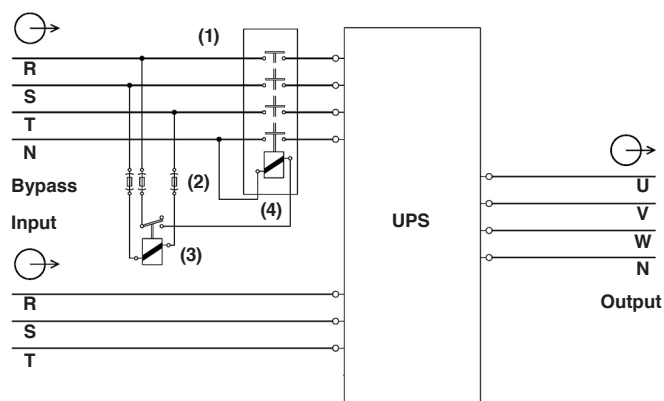

Fig. 16. Backfeed protection connection in installations with separate bypass line (X-TRA) and power ≤ 300 kVA.
- X-TRA** equipments (separate bypass line) and power ≤ 300 kVA, in accordance with safety standard EN-IEC 62040-1, installation has to be provided with a «Backfeed protection» system, as for example a contactor, which will prevent the appearance of voltage or dangerous energy in the bypass line during a mains fault (see figure 16). For powers >300 kVA the UPS has the "Backfeed protection" as standard.